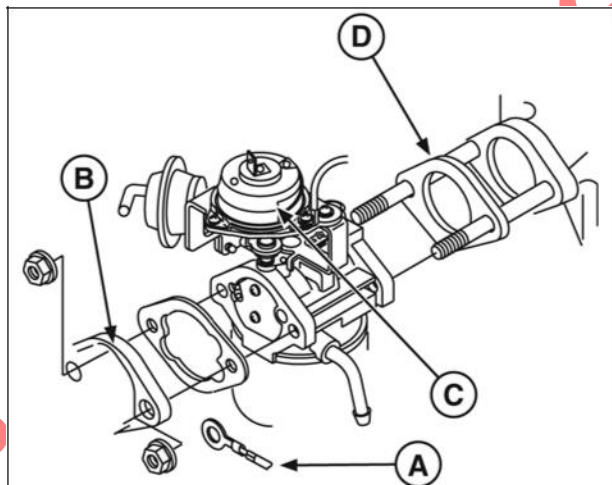

Figure 27
3. Remove two nuts and ground wire (A, Figure 27) from solenoid, air horn (B), carburetor (C), and insulator (D). Discard gaskets.